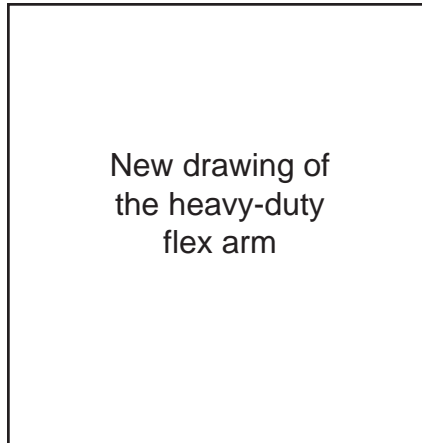

Figure 3: Flex Arm Adjustments
2. Use a 1/4" T-handle hex key to turn the arm tension adjusting screw (*Figure 3*). Turn clockwise to increase arm lift or counter-clockwise to decrease lift.